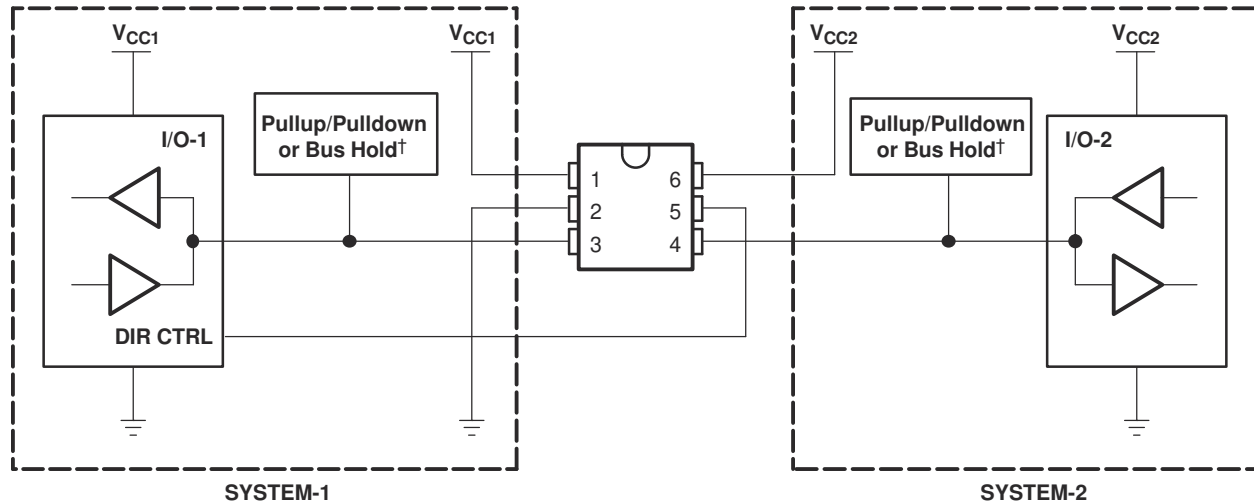

図 8-3. Bidirectional Logic Level-Shifting Application
図 8-3 shows the SN74AVC1T45-Q1 being used in a bidirectional logic level-shifting application. Because the SN74AVC1T45-Q1 does not have an output-enable (OE) pin, the system designer should take precautions to avoid bus contention between SYSTEM-1 and SYSTEM-2 when changing directions.